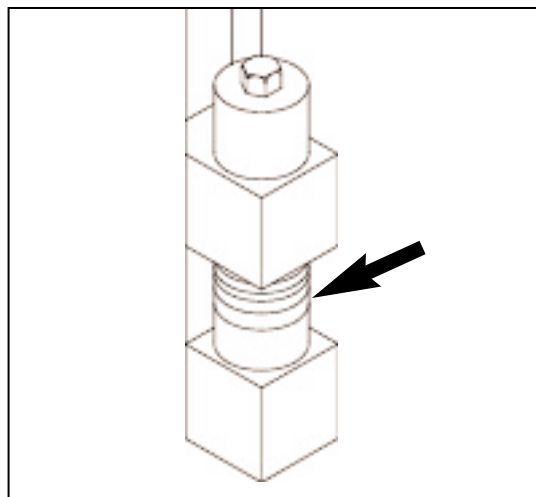

Figure 4.40 83mm [3 1/4"] OF SPACERS
- e. Store spacers on bottom side of bolt for front bolts and left hand rear bolt. For right hand rear bolt store spacers on top. Tighten bolts at all 4 corners that secure mold throat plate spacers. (See figure 4.40).